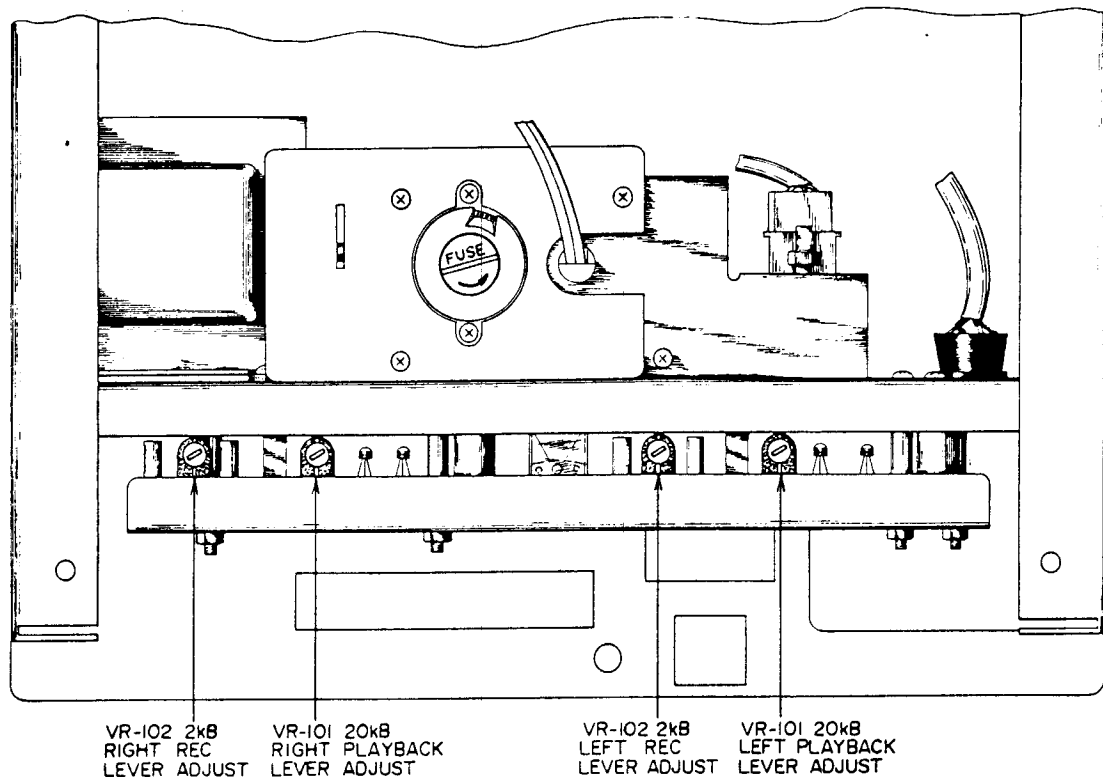

Fig. 7-1
- d) Adjust the VR 101 (semi-fixed resistor 20 K-B, Fig. 7-1) of the pre-amplifier so that Line Output Voltage indicates 1.228 V ( $\pm 4$  dbm).